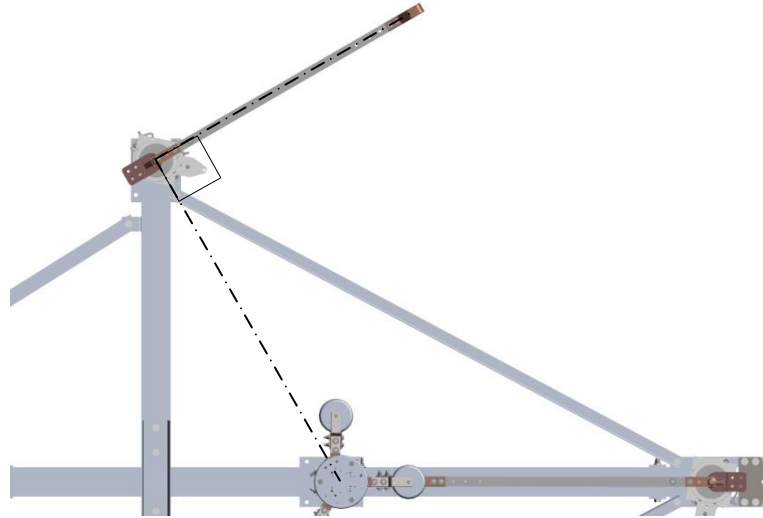

Figure 18: Left-Handed Minimum Open Angle
- 10) The typical blade opening, 90°, is shown in Figure 18 for a left-handed switch blade. Blade attachments may alter the opening angle. Refer to the Unit Assembly drawing for details.